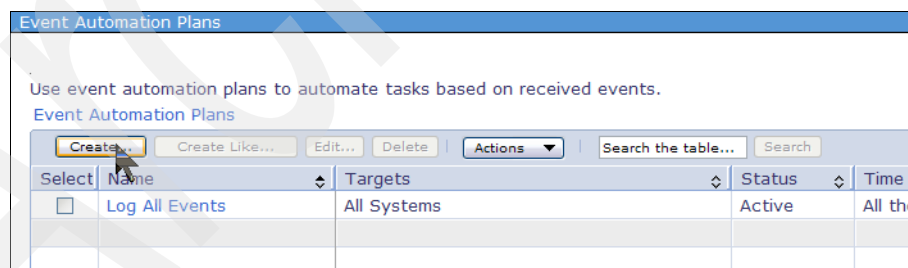

Figure 6-82 Creating an event automation plan - 2
3. On the Event Automation Plans display, click **Create** (Figure 6-82).